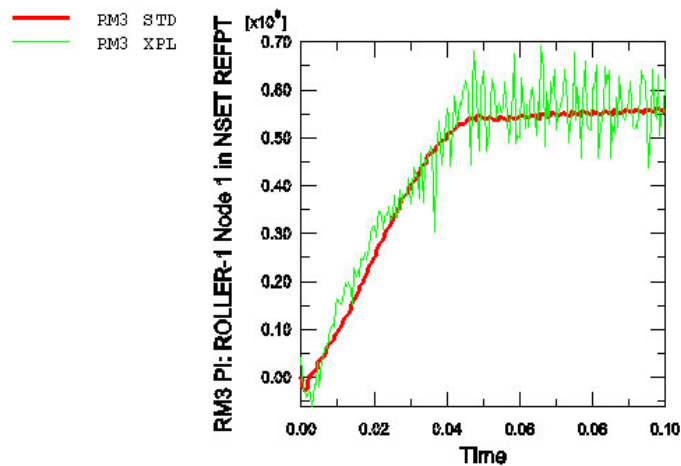

Figure W15-10 Comparison of the reaction moment history.
- Save the time history for the reaction moment **RM3** as **RM3 STD**. Plot both curves as shown in Figure W15-10.